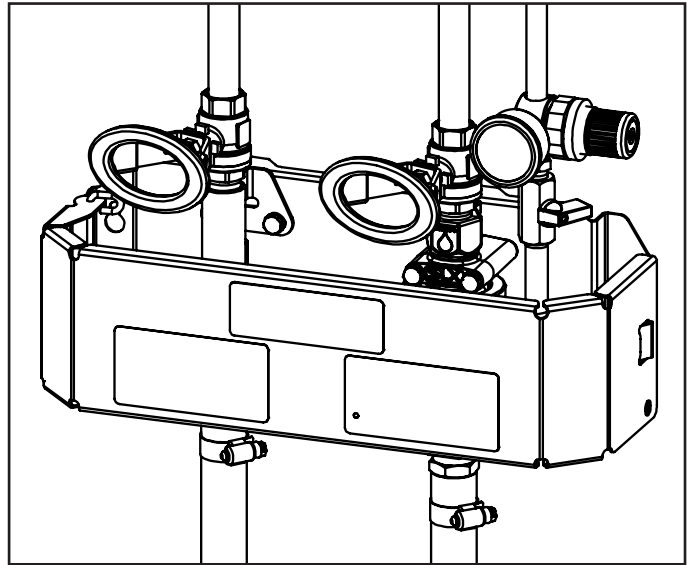

Fig. 5.1: Water and air supply ball valves closed.
1. Ensure foamer is properly connected and the pump and air supply valves are closed [Fig. 5.1]